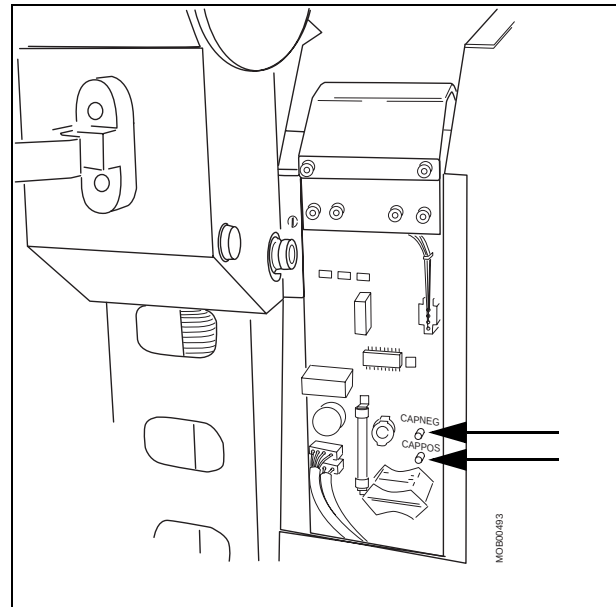

Fig. 2
- Measure the residual voltage at measuring points, CAPPOS and CAPNEG. The voltage must be less than 10 V (Fig. 2). If the voltage measured is 0 V, the measuring device could be defective or the cables between the capacitor bank and CAPPOS, CAPNEG could be damaged. In this case, proceed as described in items a - e below to avoid personal injury.